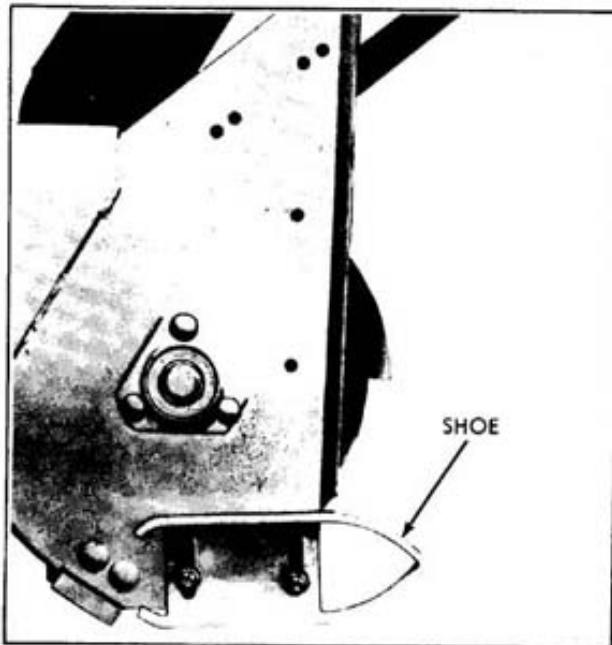

FIGURE 4
(2) Mount the shoes to the bottom outside of rotor housing as shown in Fig. 4 using the four 5/16-18 x 3/4 hex head cap screws, flat washers, lock washers, and lock nuts provided. The mounting holes are slotted so the unit can be raised or lowered, depending on the smoothness of the surface to be cleared.
(3) The chute control rod should be mounted after the snow caster has been mounted to the tractor.